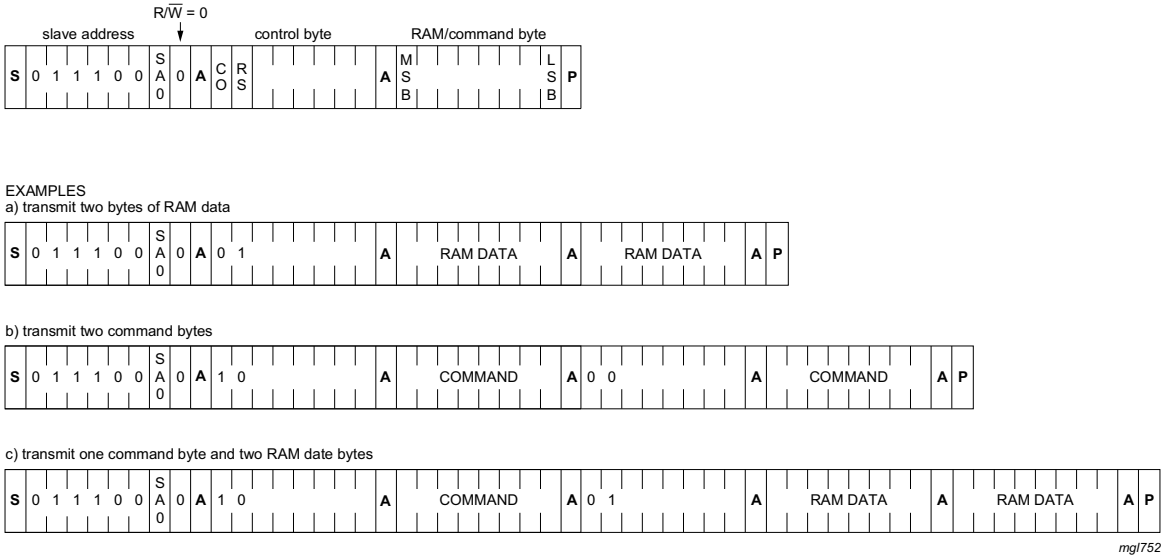

Fig 17. I2C-bus protocol
The I2C-bus protocol is shown in Figure 17. The sequence is initiated with a START condition (S) from the I2C-bus master which is followed by one of the available PCA8534A slave addresses. All PCA8534A with the same SA0 level acknowledge in parallel to the slave address. All PCA8534A with the alternative SA0 level ignore the whole I2C-bus transfer.